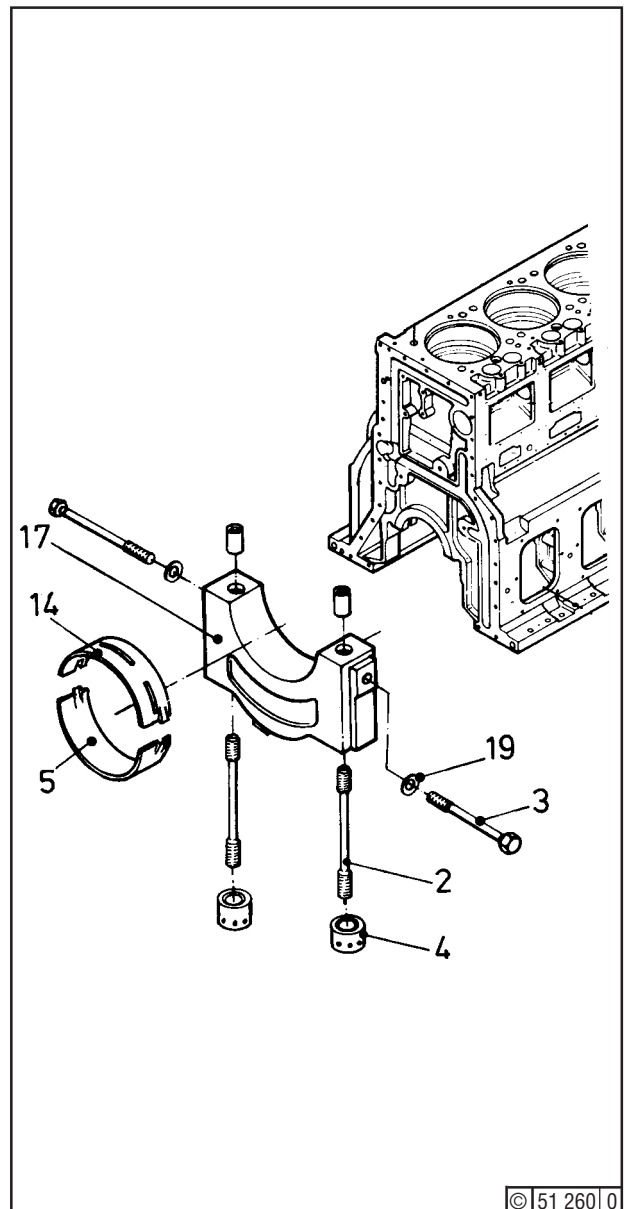
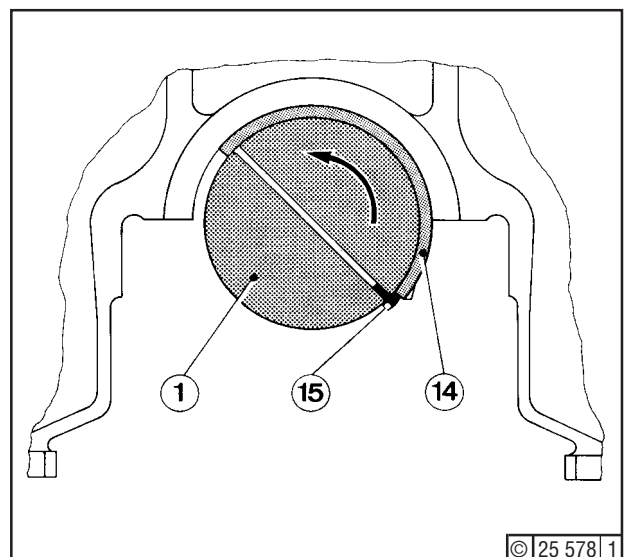
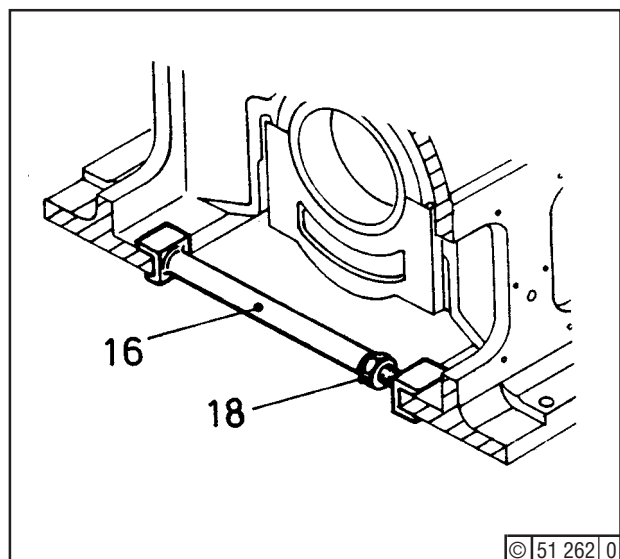

Fig. 1
Fig. 2
Fig. 4
Inspect bearing shells and renew as necessary (job 02.04.01). Used shells must be refitted in their original location. Unlike bottom shell (5), to shell (14) - Fig. 1 - is provided with oil grooves. New shells, being of the precision type, must not be modified by scraping, etc. Like the old shells, they must be provided on one lug with amarking that is permanent but will not give high spots. The top and bottom shells must always be installed so that the marks will mate. Note marking of cap (17) on its front facing the engine's driving end. Inspect journal and, if necessary, smoothen by oil stone.
Clean all components. Remove protection coverings from oil bores of crankshaft (1) - Fig. 2 -. **Apply film of oil to journal and shell running surface, but keep shell back and seat dry. Usually, shell (14) - Fig. 1 - can be fitted by hand.**
Failing this, insert driving pin (15) into oil bore of crankshaft (1) and turn shaft until driving pin (15) is in the appropriate position for turning top shell (14) in place (see Fig. 2).
Slowly turn crankshaft as arrowed until top shell (14) - Fig. 1 - is equidistant from cap joints. Be sure not to damage the shell lug. Remove driving pin (15) - Fig 2 - and put bottom shell (5) - Fig. 1 - (mark facing driving end) into cap (17).
To facilitate introduction of cap (17) into lateral guide, the crankcase can be spread at this point by means of tool (16) - Fig. 4 -. To do this, release foundation bolts on the engine side opposite the fitted studs and turn nut (18) - Fig. 4 - for spreading.
Cap (17) - Fig 1 - can now be installed and hand-tightened by means of nuts (4). Remove spreader (16) - Fig. 4 - and retighten foundation bolts as locally specified.
Back bolts (10) through one turn. Connect hydraulic pump with hoses. Apply Deutz S2 compound to seats of bolts (3) - see Fig 1 -. After the first expansion of studs (2), screw in bolts (3) together with washers (19). For entire expansion process, see Section 3.5.2.